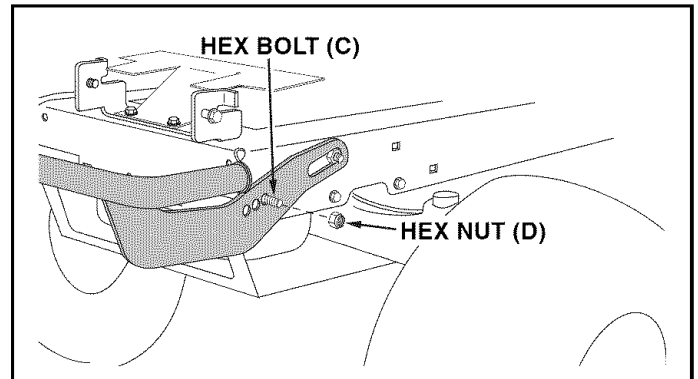

FIGURE 5
STEP 4: (SEE FIGURE 5)
- The bumper has three mounting holes. The rear hole provides the most clearance while the forward holes provide a neater appearance. Use a hole that provides enough clearance for hood to stay in raised position when opened. Insert a hex bolt (C) through tractor frame and into desired mounting hole on each side of bumper and secure with a hex nut (D).